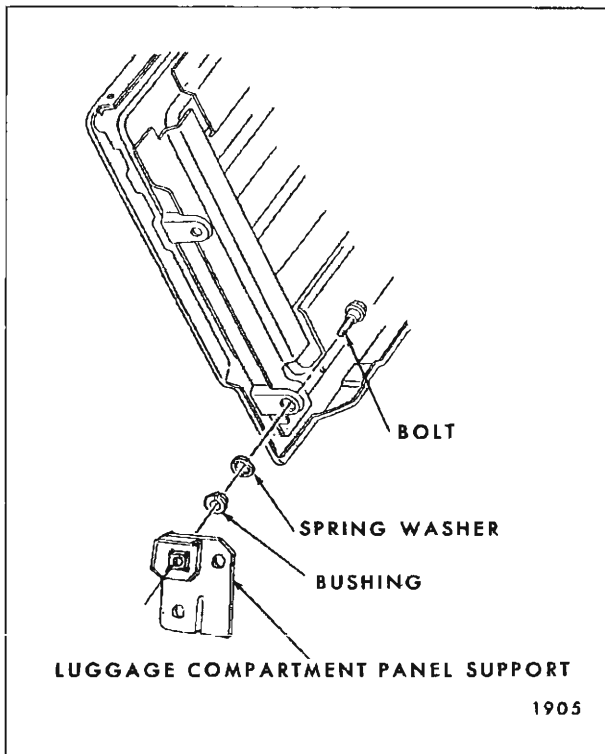

Fig. 15-71—Luggage Compartment Panel Attachment to Body
- Remove bolt (Fig. 15-71) at both sides of front panel securing front and rear panel assemblies to supports; then remove assembly from body.
- To install, reverse removal procedure. Make sure bushing and spring washer are properly installed (Fig. 15-71).